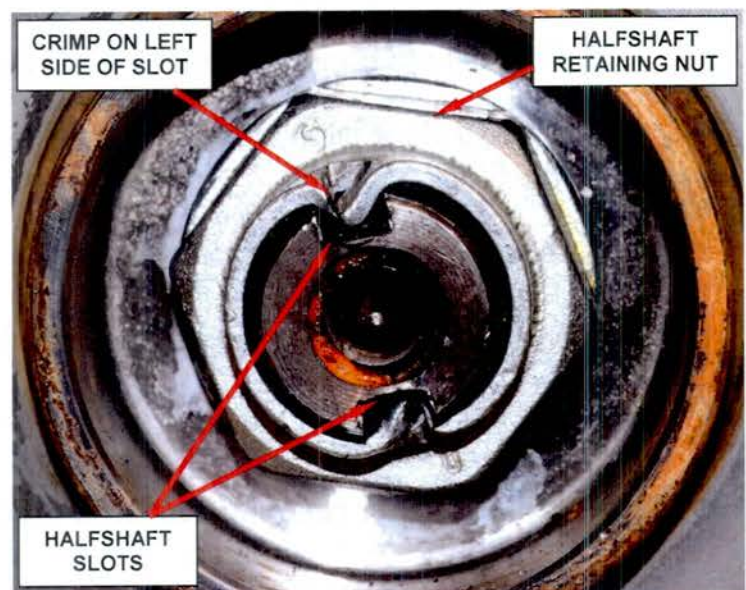

Figure 34 – Correctly Crimped Nut
70. Using special tool 10287, crimp both halfshaft retaining nuts. The tool must be positioned so that the crimp is on the left side of the slot in the halfshaft (Figure 34). The nut will split when a loud pop is heard while tightening the tool. Continue tightening until the tool jaw bottoms on the halfshaft.